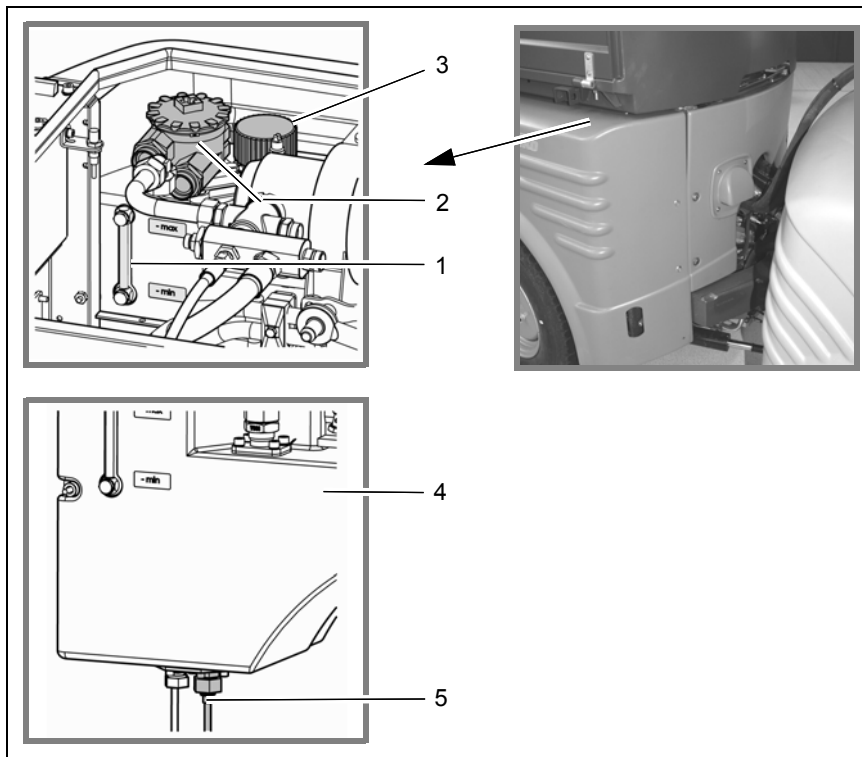

Fig.48
Check the hydraulic oil level on the fill level indicator (Fig. 48/1) every week and top up if necessary.
4. Unscrew the cover cap (Fig. 48/3) and top up the hydraulic oil.
4. Remove the suction return-line filter (Fig. 48/2).
5. Unscrew the cover cap (Fig. 48/3).
6. Loosen the pipe (Fig. 48/5) below the hydraulic oil tank (Fig. 48/4) and drain the hydraulic oil.
7. Re-fit the pipe (Fig. 48/5) and pour in hydraulic oil.